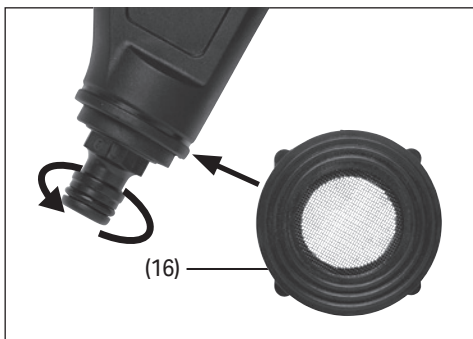

Fig. 15
9.2 Gun Connector Filter Cleaning/ Replacement - Fig. 15.
- To replace the filter (16) unscrew the power nozzle connector and remove the old filter and clean. If the filter is damaged and requires replacement a spare one is supplied in pack.